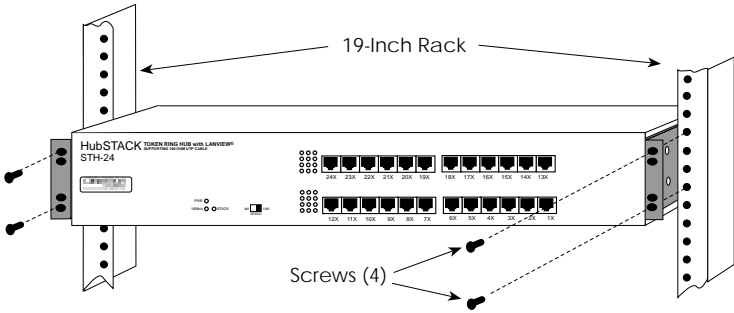

Figure 3-4. Installing the STH in a Rack
3. With the mounting brackets installed, position the STH between the vertical frame members of the 19-inch rack and fasten it securely with the mounting screws as shown in Figure 3-4.